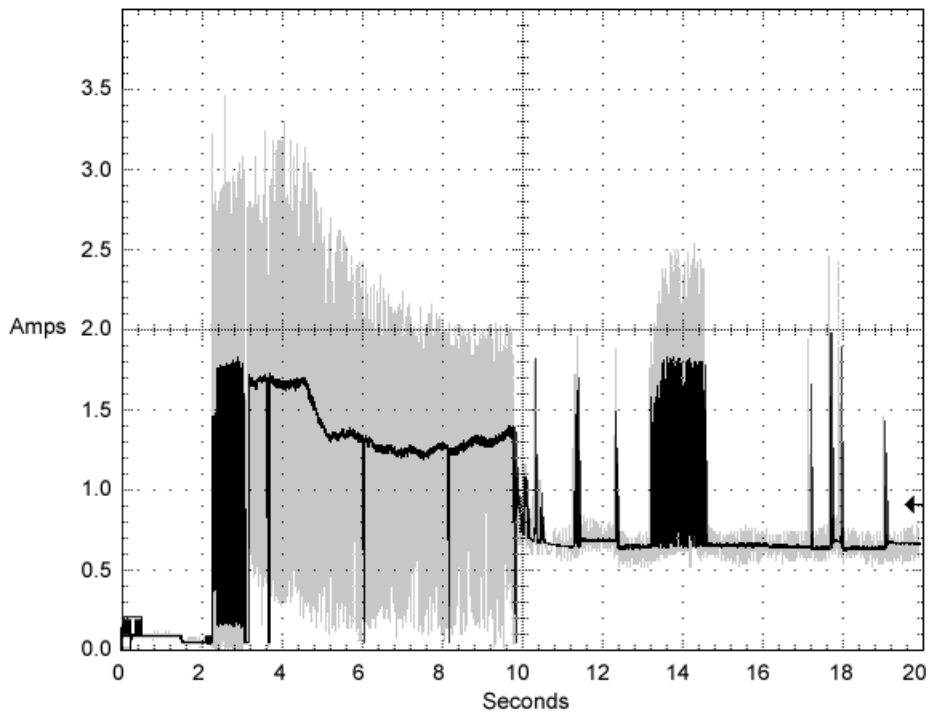
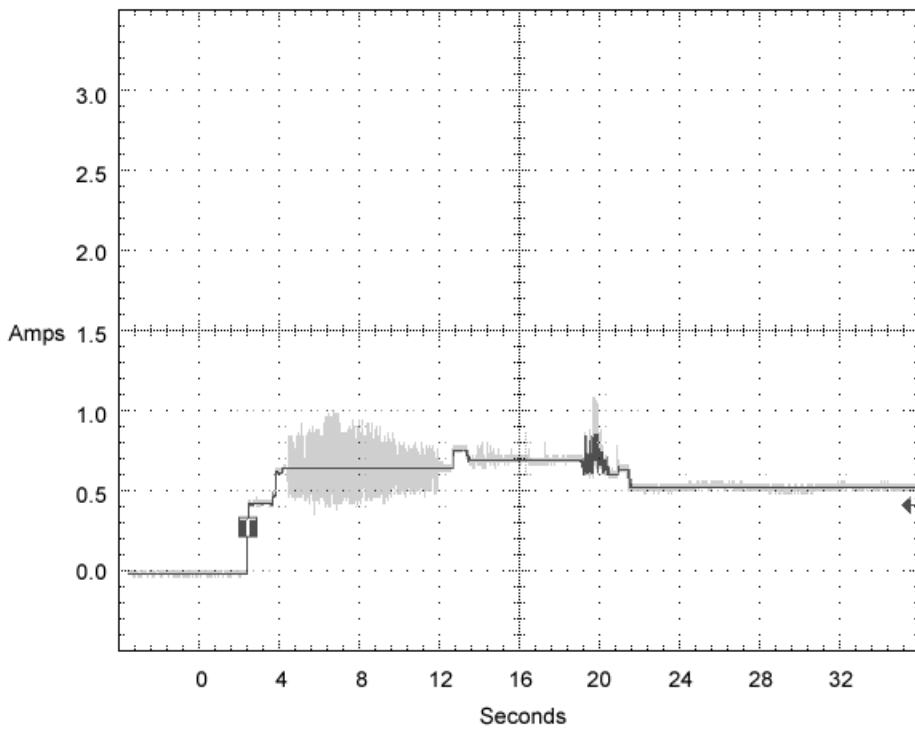

Figure 2. Typical ST330007 drive +12 V current profile
Figure 3. Typical ST330007 drive +5 V current profile
- [3] See +12 V current profile in Figure 2.
Figure 2, 4 and 6 identify the drive +12 V current profiles and figures 3, 5 and 7 identify the drive +5 V current profiles. The current during the various times is as shown: